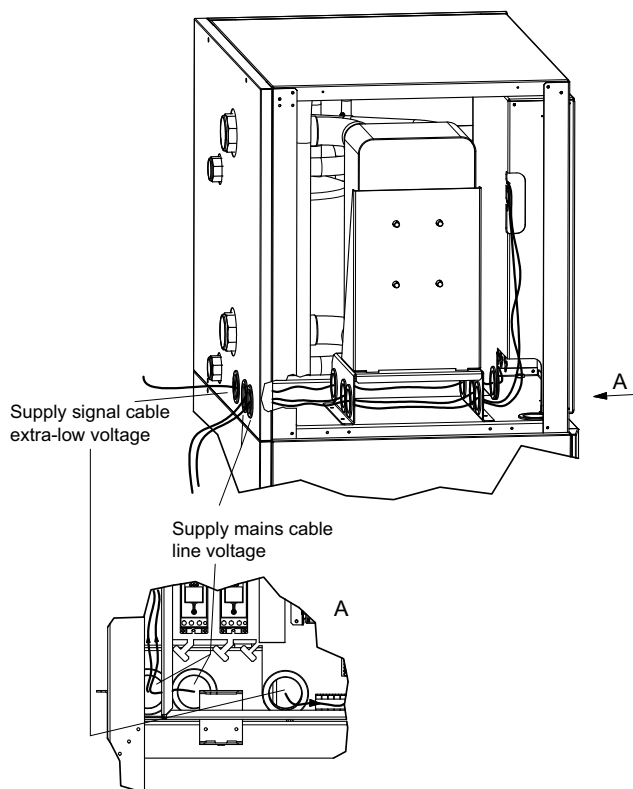

Fig. 7.4: Cable inlet switch box
**For installation work on the switch box, ensure that the mains cable and signal cables are inserted separately into the switch box. The specially arranged switch box inlets must be used for this purpose (see Fig.7.4 on pag. 8).**